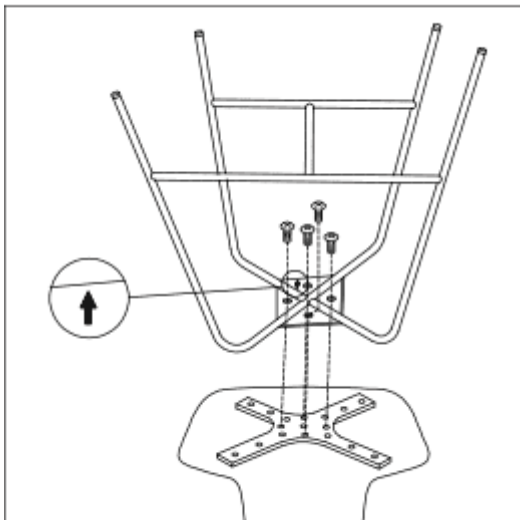

Figure 1
2. Place leg assembly upside down so holes on leg assembly match up with mounting bracket. Make sure arrow on leg assembly is pointed towards the front of the seat when attaching the leg assembly to the seat (Figure 1).